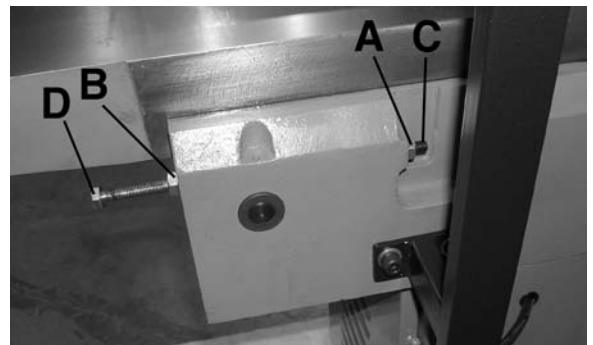

FIGURE 13
Positive stops are provided on the jointer to limit the height and depth of the infeed table. To adjust the stops, loosen two locknuts (A) and (B) Fig. 13, and turn the two adjustment bolts (C) and (D) as necessary. Retighten locknuts (A) and (B). We recommend that the height of the infeed table be adjusted so the table at its highest point will be 1/2mm below the highest point of the knives. This is an important feature of your jointer which enables you to rapidly position the infeed table for a finish or final cut.